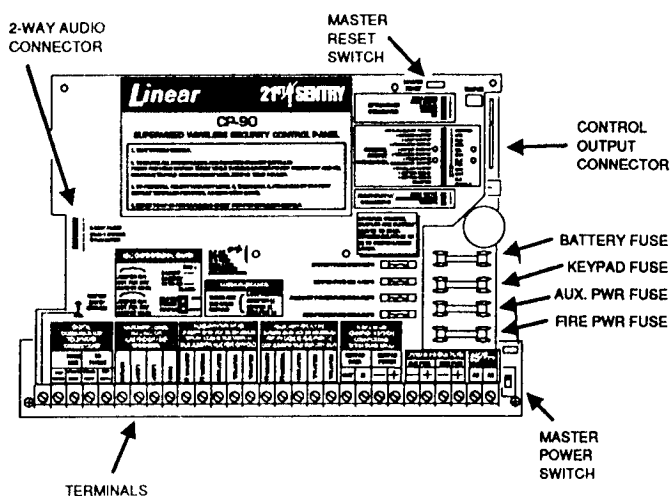

Figure 37. Master Reset Switch Location
- STEP 2** Use a small tool to press and hold down the MASTER RESET switch (see Figure 37).